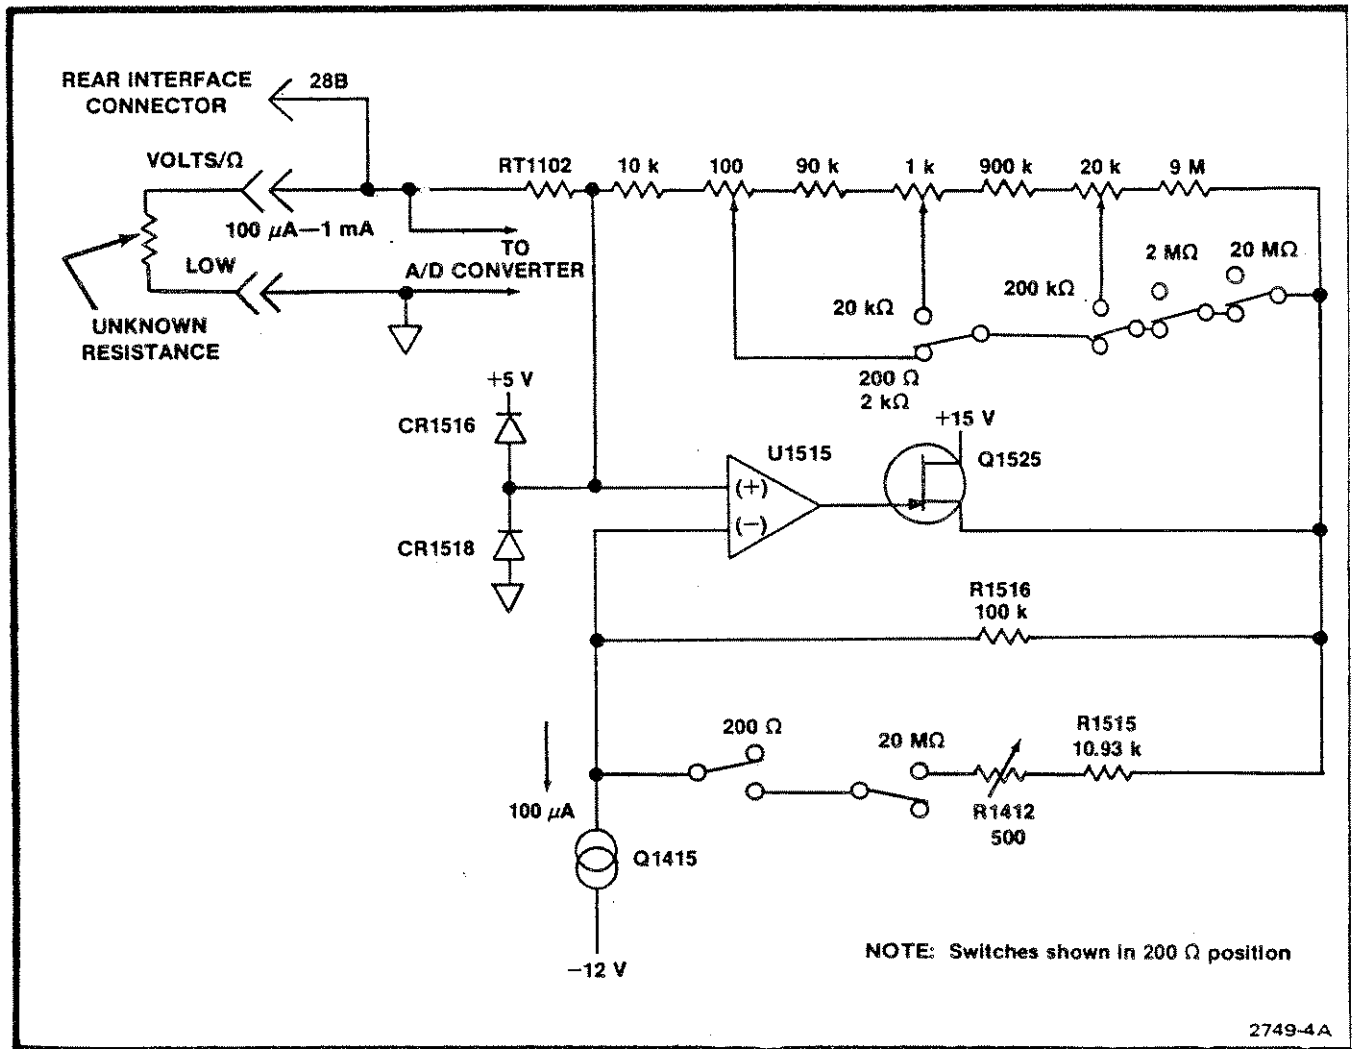

Fig. 3-6. Simplified ohms converter diagram.
**Ohms Converter 1** (Refer to Fig. 3-6)